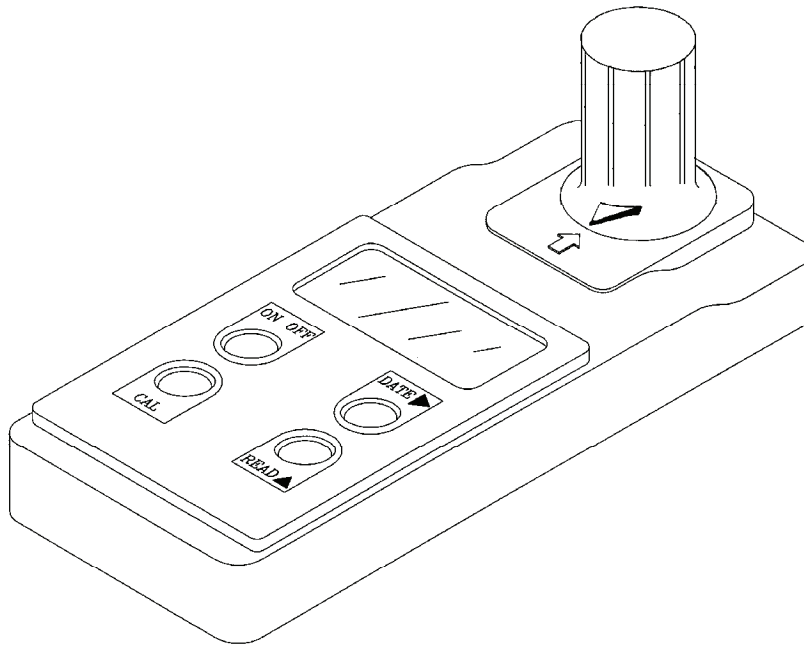

Figure 2. Turbidity Meter Cuvet Installation.
9. Ensure to line up the arrows on the cap and the meter. See Figure 2.